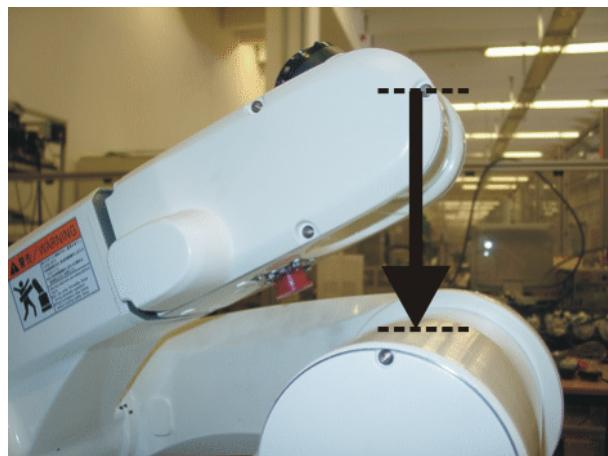

Fig. 10-35: Pre-mastering position A3
- Move A3 into the following position: the distance (measured vertically) between the center of the screw and the highest point on A2 must be **135 mm** (>>> Fig. 10-35).